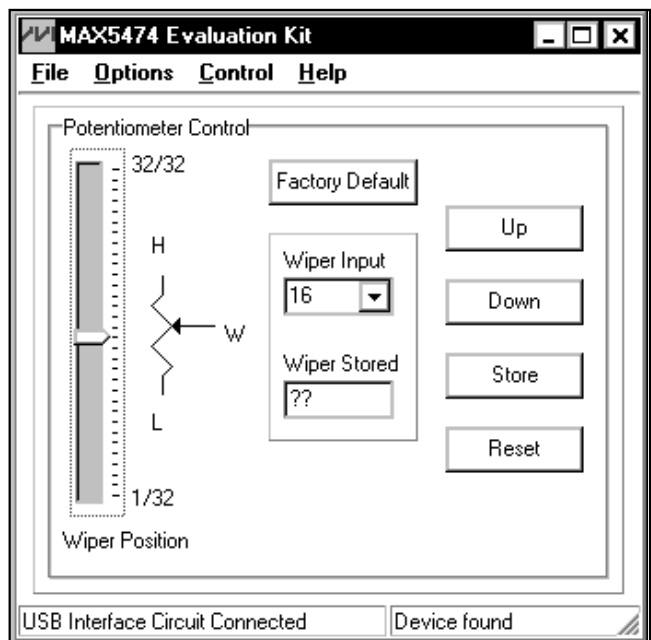

Figure 1. MAX5474 Evaluation Kit Software Main Window
- 10) The software automatically searches for the MAX5474. After successful connection, the EV kit software main window appears in the upper-left corner of the window. Select the **Up/Down** buttons to change the wiper position, or enter the desired wiper position into the **Wiper Input** combo box (see Figure 1).
The MAX5474 EV kit software graphical user interface (GUI) is a Windows program that provides a convenient means to control the MAX5474, as shown in Figure 1.